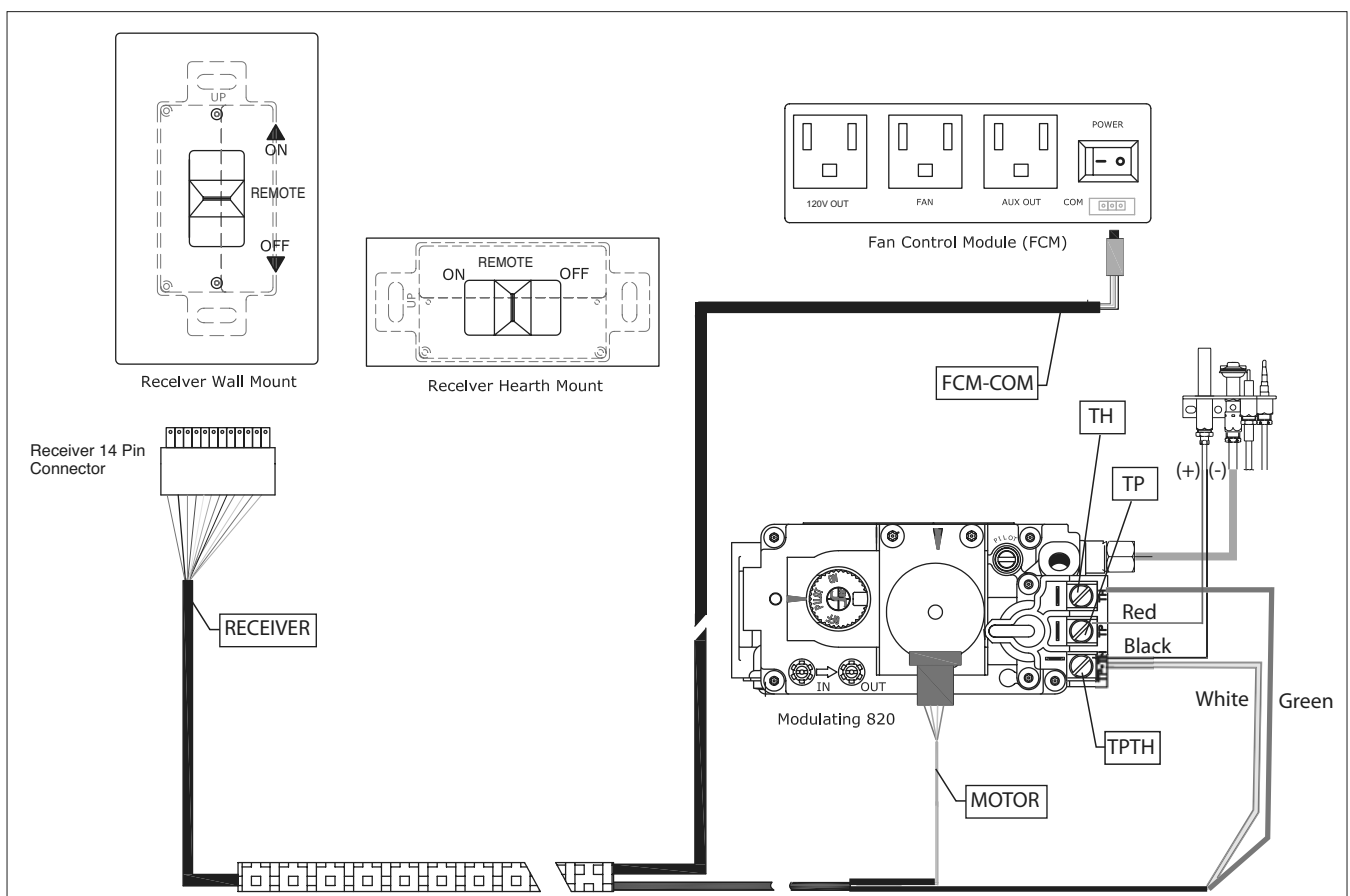

Fig. 2: Wiring diagram.
- Check that the electrical connections are in accordance with Fig. 2.